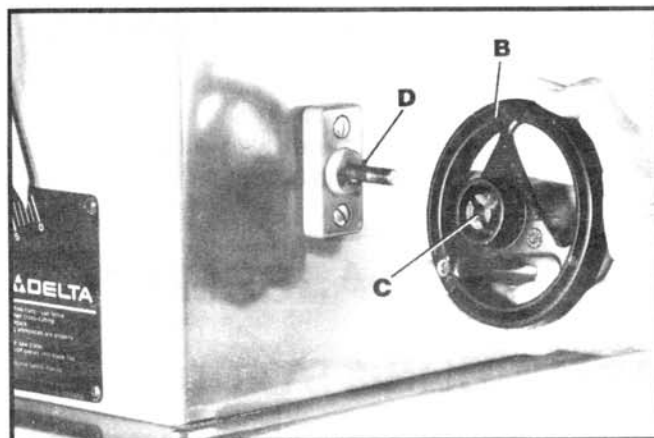

Fig. 5
1. Assemble the blade tilting handwheel (B) Fig. 5, to the shaft, making certain the slot (C) in the hub of the handwheel is engaged with the roll pin (D) on the shaft.